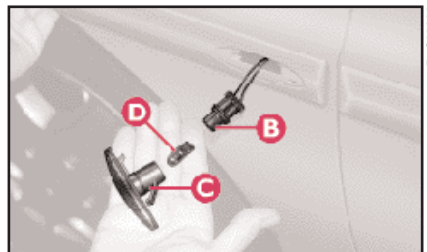

fig. 16
3) Remove the bulb holder **B** (fig. 16) from **C** in the lens.